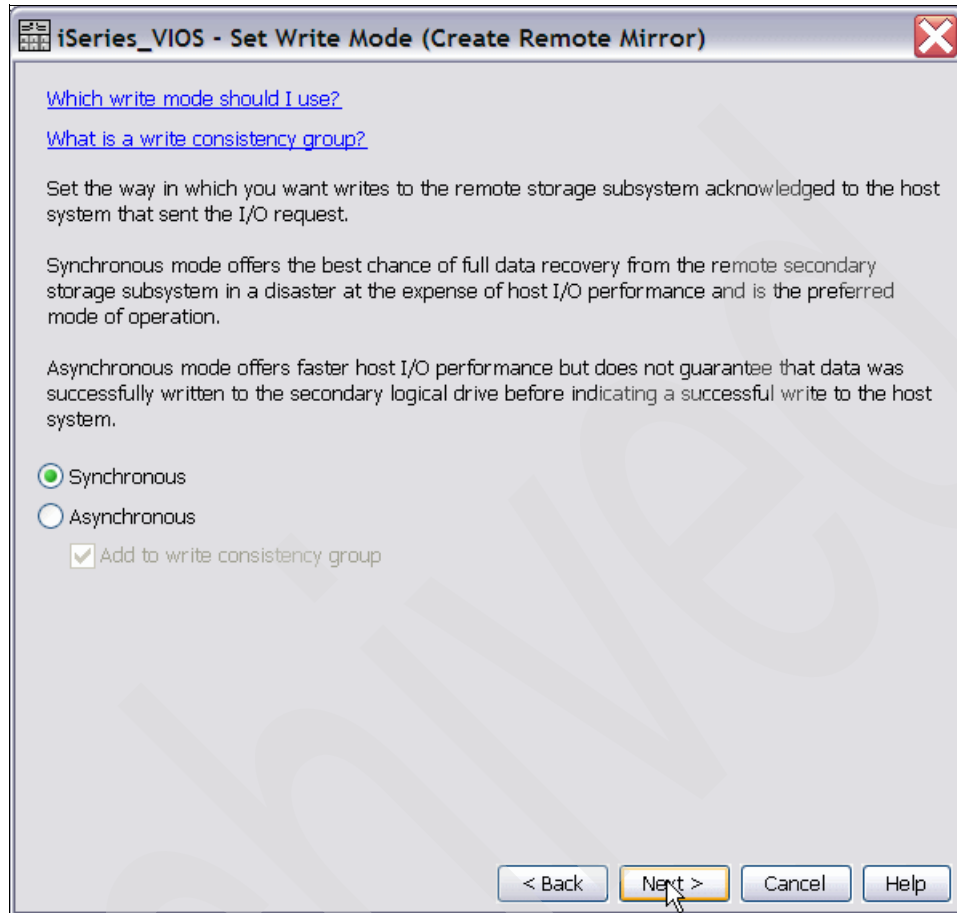

Figure 8-35 Select type of remote mirroring
8. Choose the type of remote mirroring that you want to start. To establish metro mirroring select **Synchronous**, as shown in Figure 8-35.